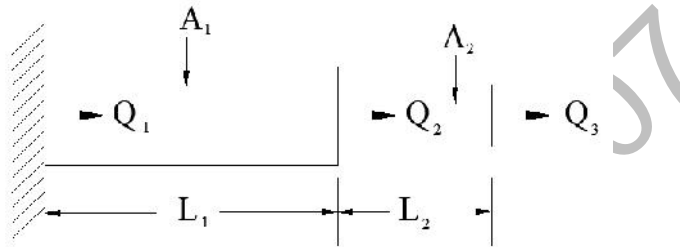

Fig.5
- 16 Determine the natural frequencies and displacements of the stepped bar shown in Fig.5. Sketch its mode shapes also.  $A_1=400\text{mm}^2$ ;  $A_2=200\text{mm}^2$ ;  $\rho_1 = 7200\text{kg/m}^3$ ;  $\rho_2 = 8500\text{kg/m}^3$ ;  $E_1 = 1.5 \times 10^5 \text{ N/mm}^2$ ;  $E_2 = 200\text{GPa}$ ;  $L_1 = L_2 = 0.2\text{m}$ ;  $P = 50 \text{ kN}$ .